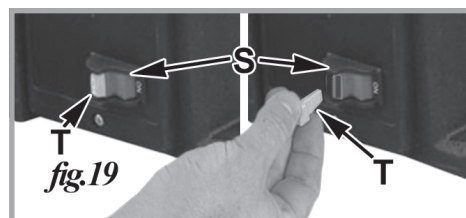

fig.19
- T. ON/OFF SAFETY SWITCH** Flips to the right and left to turn the machine on and off. When the safety key (T, fig. 19) is removed, the switch will not move from the "Off" position.